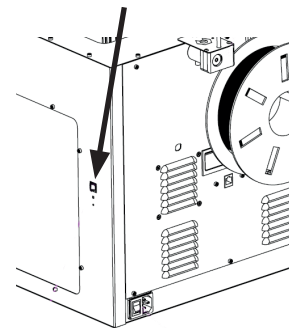

Fig. 3
- ⇒ Connect the USB cable to the USB outlet of the SIMPLEX (Fig. 3).